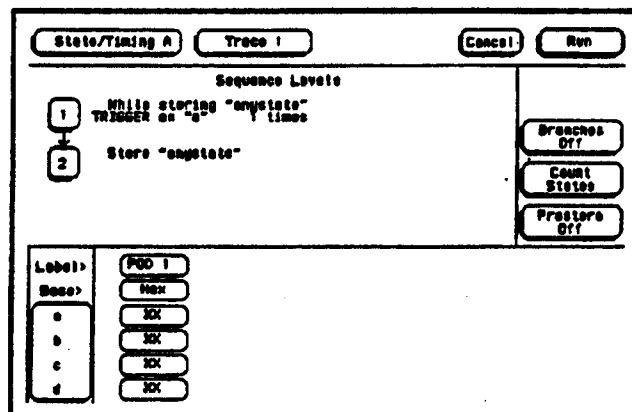

Figure 3-8. Trace Screen
- 5. Configure the Trace screen without sequencing levels and set Count to States as shown in figure 3-8. Refer to steps a and b if unfamiliar with the menus.